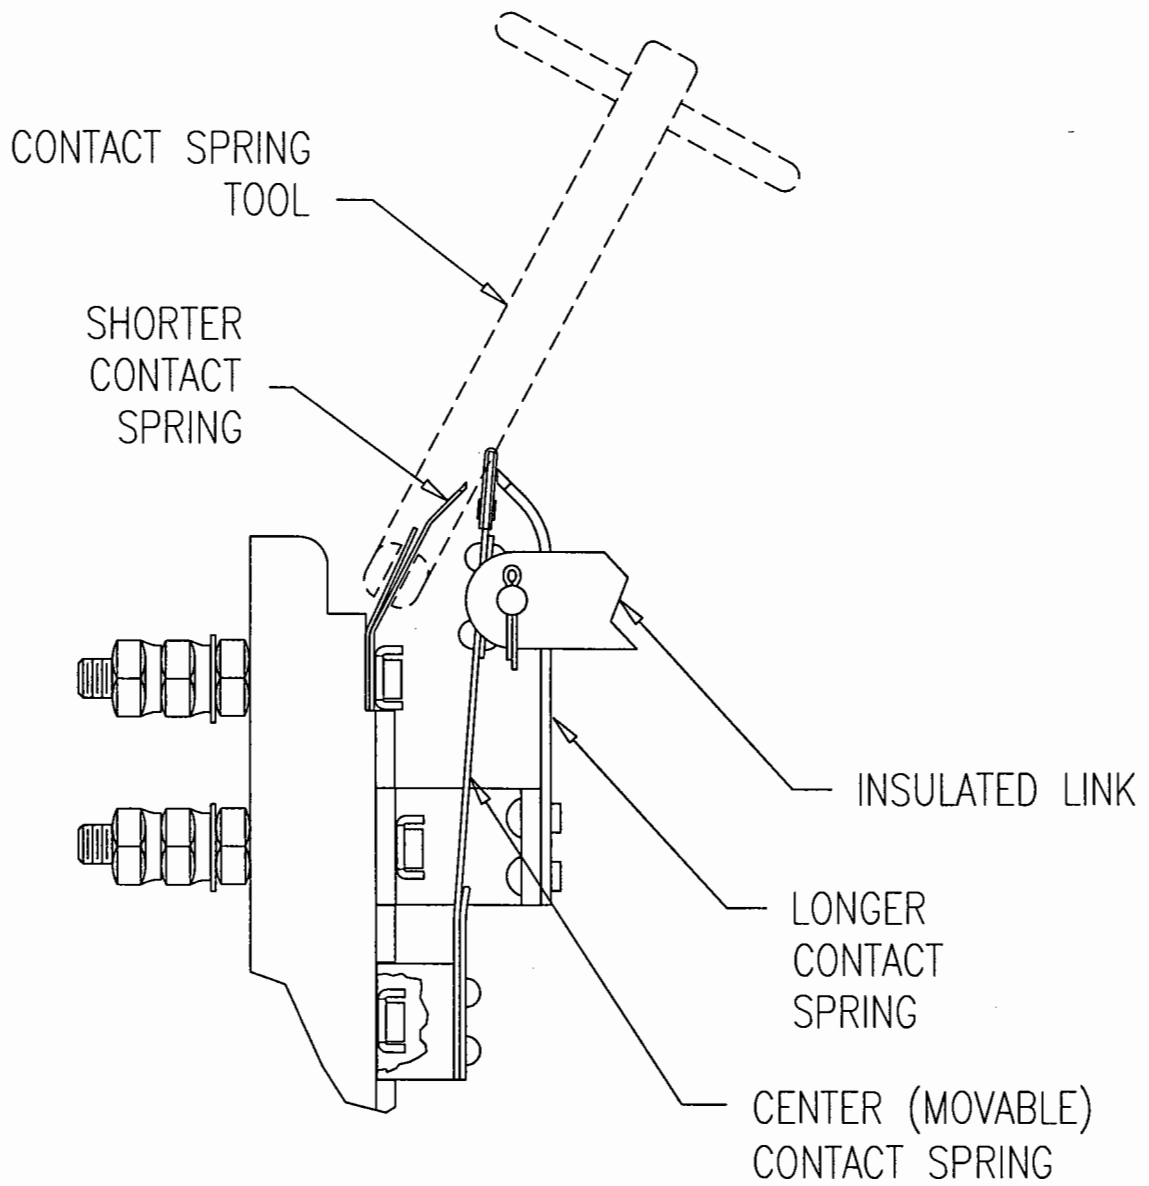

FIGURE 4-1. CONTACT ADJUSTMENT
4.4.2 Contact Spring Adjustments (See Figure 4-1)